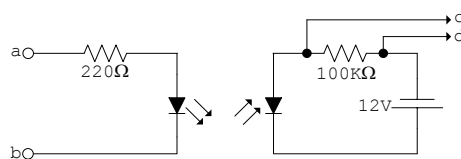

Figure4.
8. Construct the circuit as shown in figure4. Keep the infrared LED and photodiode face to face.